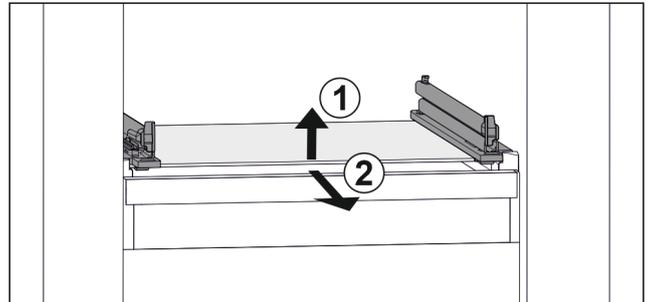

Fig. 94 Example illustration of glass shelf
- ▶ Lift glass shelf at the front. *Fig. 94 (1)*
- ▶ Take out glass shelf to the front. *Fig. 94 (2)*